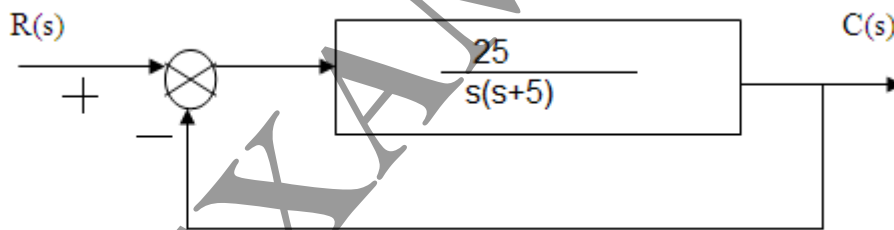

Figure Q5. (a) Thermostatically controlled air-conditioning system
- Q5.** a) Assess the time response properties of the closed loop control system depicted in Figure Q5.(a) for regulating the temperature in an automobile's air-conditioning system with step input.